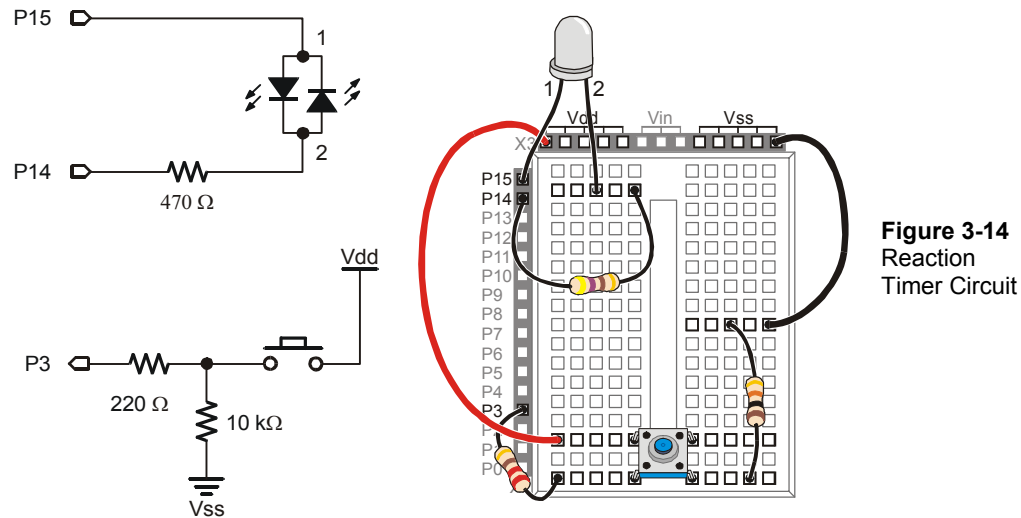

Figure 3-14
Figure 3-14 shows a schematic and wiring diagram for a circuit that can be used with the BASIC Stamp to make a reaction timer game.
- √ Build the circuit shown in Figure 3-14.